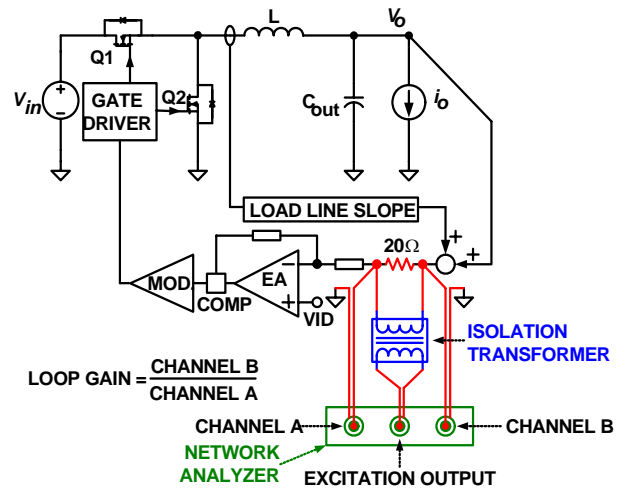
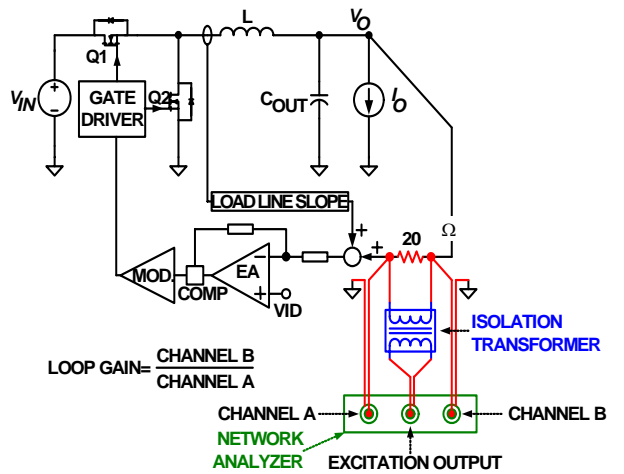

FIGURE 25. LOOP GAIN T1(s) MEASUREMENT SET-UP
FIGURE 26. LOOP GAIN T2(s) MEASUREMENT SET-UP
A VR with active droop function is a dual-loop system consisting of a voltage loop and a droop loop which is a current loop. However, neither loop alone is sufficient to describe the entire system. The spreadsheet shows two loop gain transfer functions, T1(s) and T2(s), that describe the entire system. Figure 25 conceptually shows T1(s) measurement set-up and Figure 26 conceptually shows T2(s) measurement set-up. The VR senses the inductor current, multiplies it by a gain of the load line slope, then adds it on top of the sensed output voltage and feeds it to the compensator. T(1) is measured after the summing node, and T2(s) is measured in the voltage loop before the summing node. The spreadsheet gives both T1(s) and T2(s) plots. However, only T2(s) can be actually measured on an ISL62882 regulator.